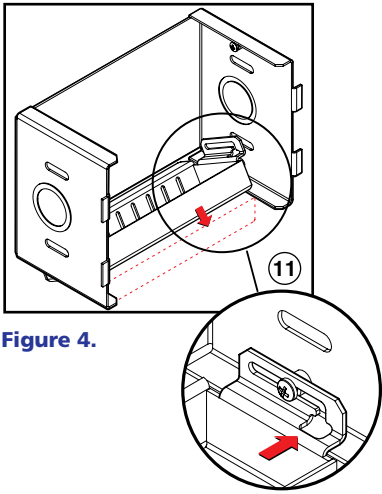

Figure 4.
11. Align the holes in the side flanges above the mounting screws on either side of the U-plate (see inset in figure 4).